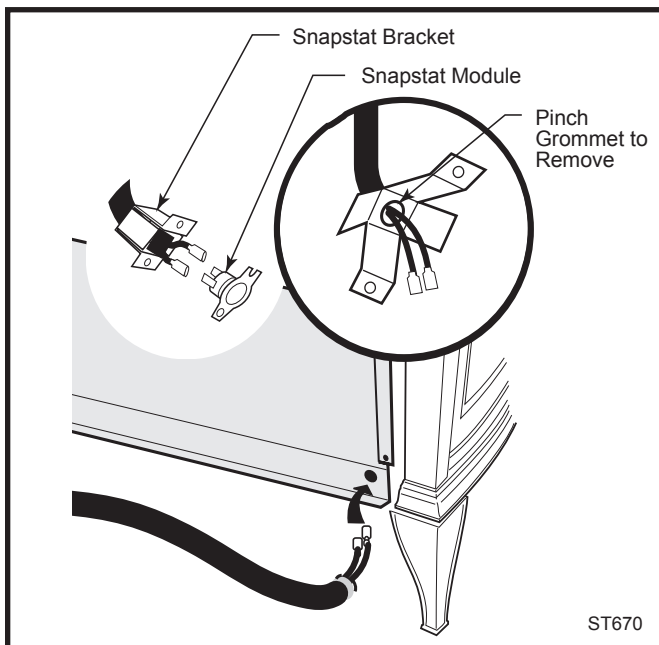

Fig. 11 Remove the snapstat and grommet from the bracket and insert the grommet into the inner shroud.
5. Connect snapstat leads. Disconnect the snapstat module from the leads inside the snapstat bracket. (Fig. 11) Bend open the snapstat bracket. Use needlenose pliers to remove the black plastic grommet from the bracket. Discard the bracket. Insert the grommet and wires into the large hole at the bottom right corner of the inner shroud. Feed the snapstat wire leads through the grommet into the stove interior. Connect the two wires to the two snapstat extension leads attached to the inner shroud.